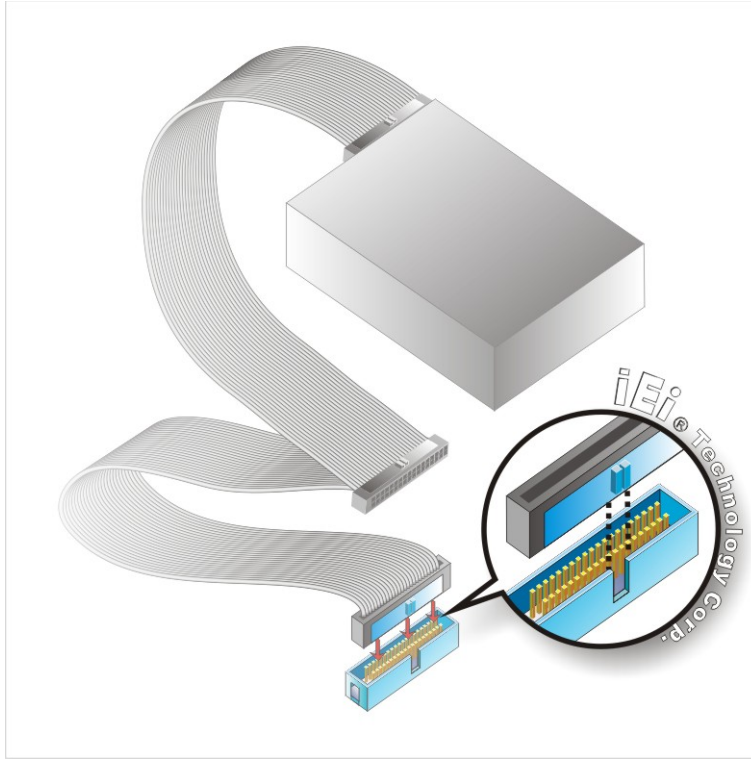

Figure 5-9: IDE Cable Connection
Step 2: Insert the connector. Connect the IDE cable connector to the onboard connector. See Figure 5-9. A key on the front of the cable connector ensures it can only be inserted in one direction.